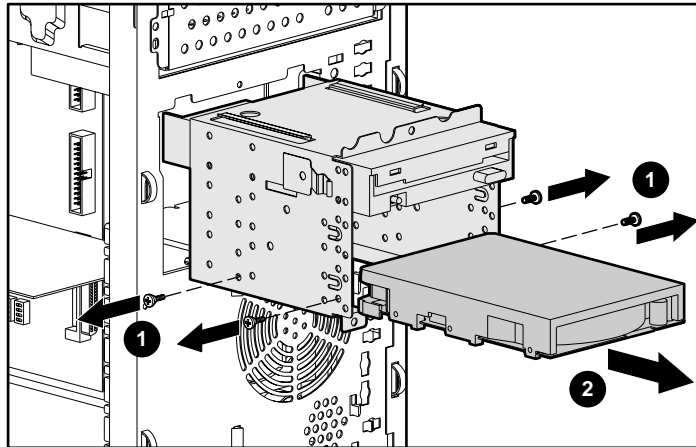

Figure 3-12. Removing a hard drive
4. Remove two screws on each side of the drive to be removed **1**, and then gently pull the drive out of the drive bay **2** as shown in Figure 3-12.